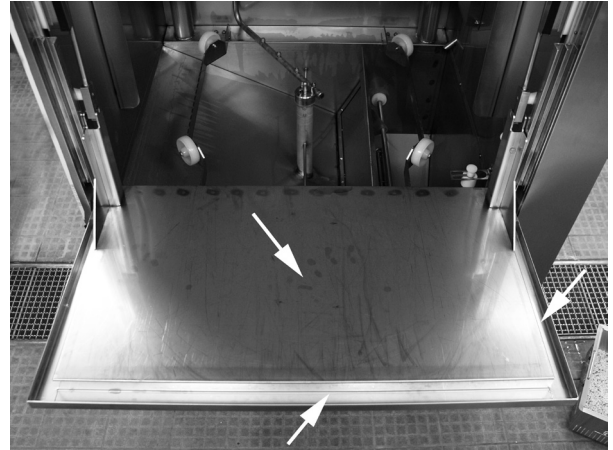

Figure 23: The inside of the door
12. Wipe the inside of the door with a damp cloth, Figure 23 The inside of the door.